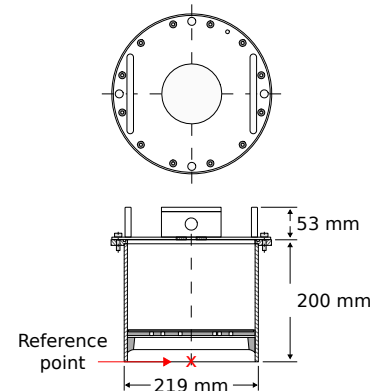

Figure 1.2: The reference point for mounting height measurement and radar position.
- The reference point for the mounting height of the radar is shown in Fig.1.2.